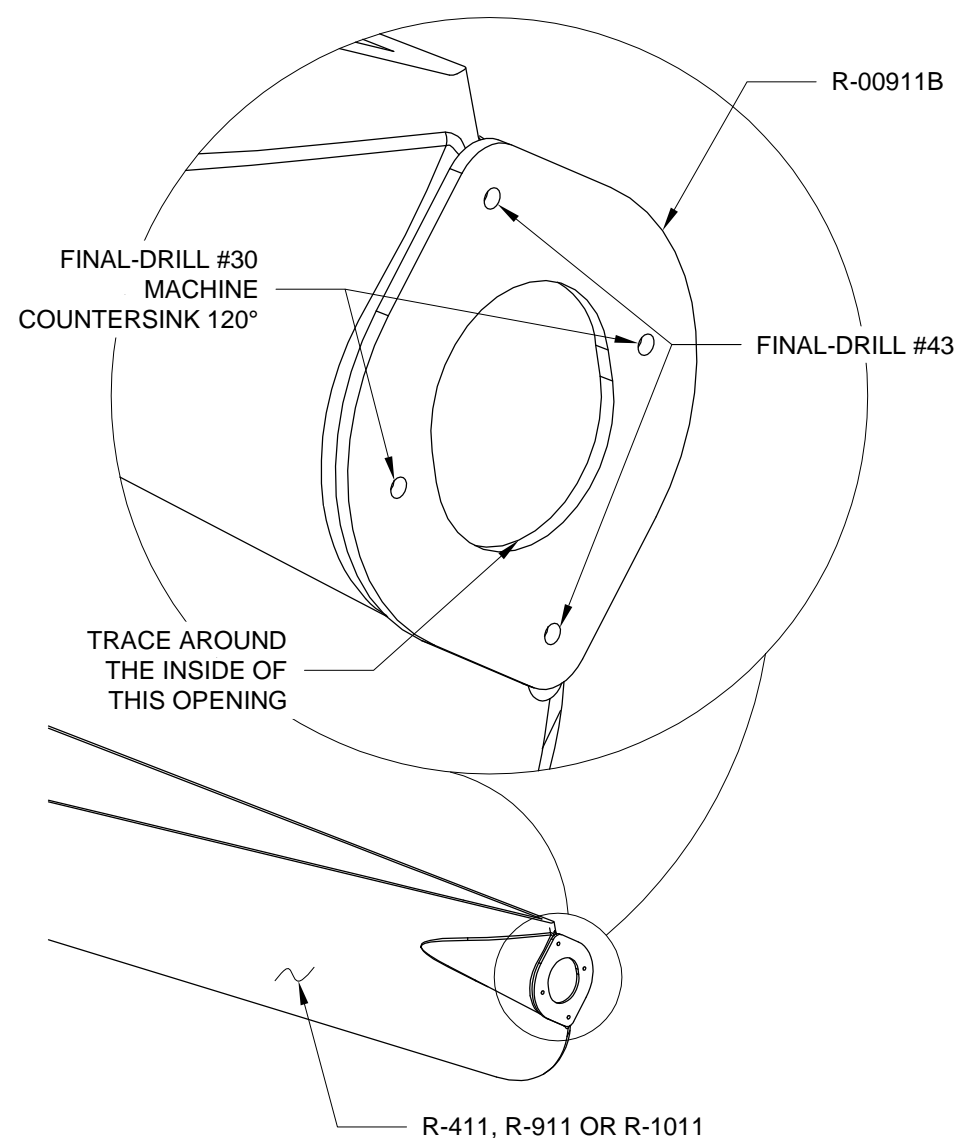
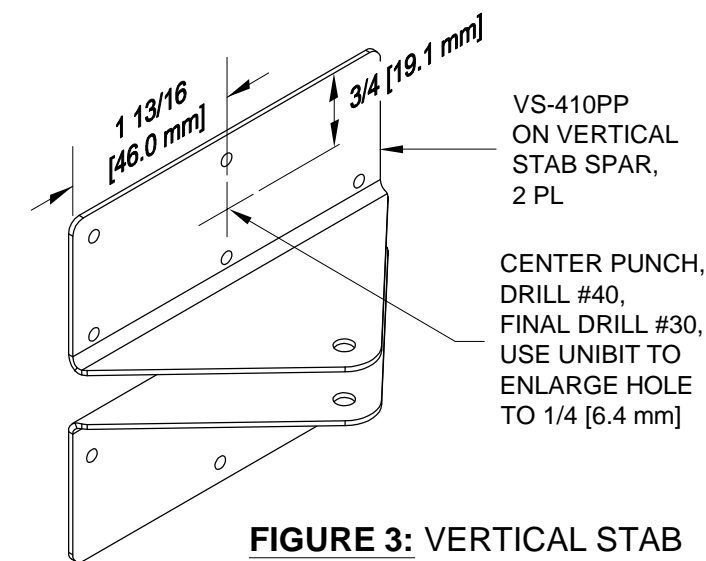

FIGURE 1: FITTING THE RUDDER FAIRING DOUBLER
FIGURE 3: VERTICAL STAB SYSTEMS HOLE (RV-3,4,6,7,8,9)
Step 1: Center the R-00911B Rudder Fairing Doubler on the aft end of the R-411, R-911 or R-1011 Rudder Bottom Fairing as shown in Figure 1. Tape the rudder fairing doubler in place.
Step 2: Final-Drill #30 and cleco the holes as shown in Figure 1.
Step 3: Final-Drill #43 the holes as shown in Figure 1.
Step 5: Machine countersink the rudder fairing doubler to fit the head of an CS4-4 rivet. See Figure 1.
Step 11: Run a #43 drill bit through the top and bottom holes. See Figure 1. Clean the drill bit before the epoxy cures. Wait until the resin is fully cured before proceeding.
Step 13: (RV-3,4,6,7,8,9) Drill the aft systems hole as in the VS-410PP Bracket, vertical stab spar, and bulkheads as called out in Figure 3. For reference, see also Page OP56-2, Figure 1.